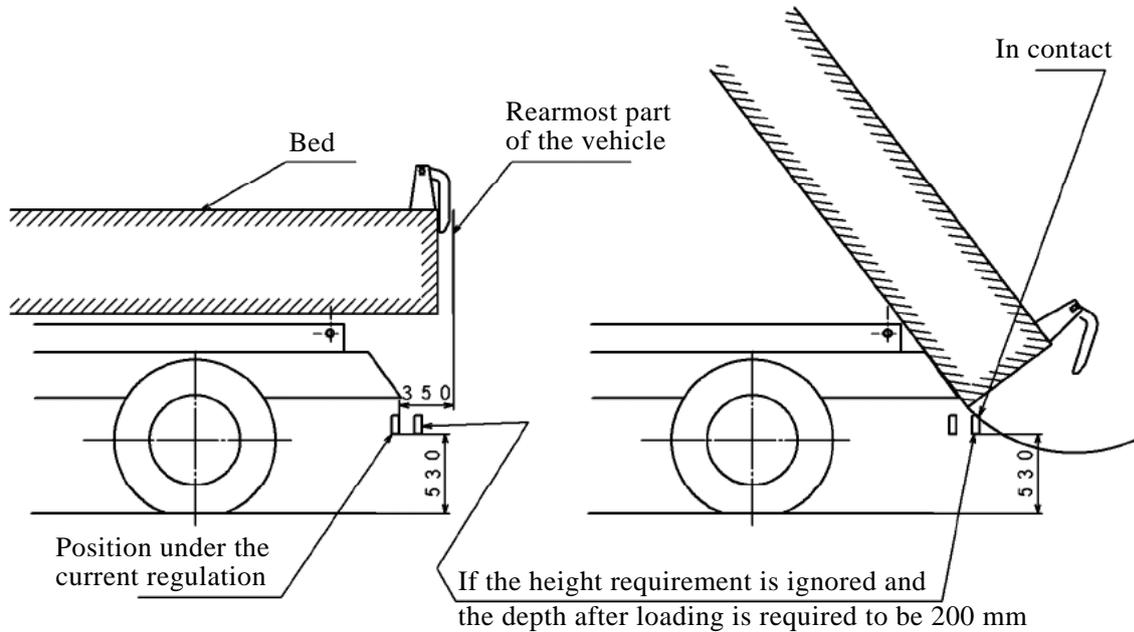

Figure 1 Contact Caused by Dumping
1. The bed will come in contact with the RUPD when it rises for dumping, which makes the structure impossible. (Figure 1)